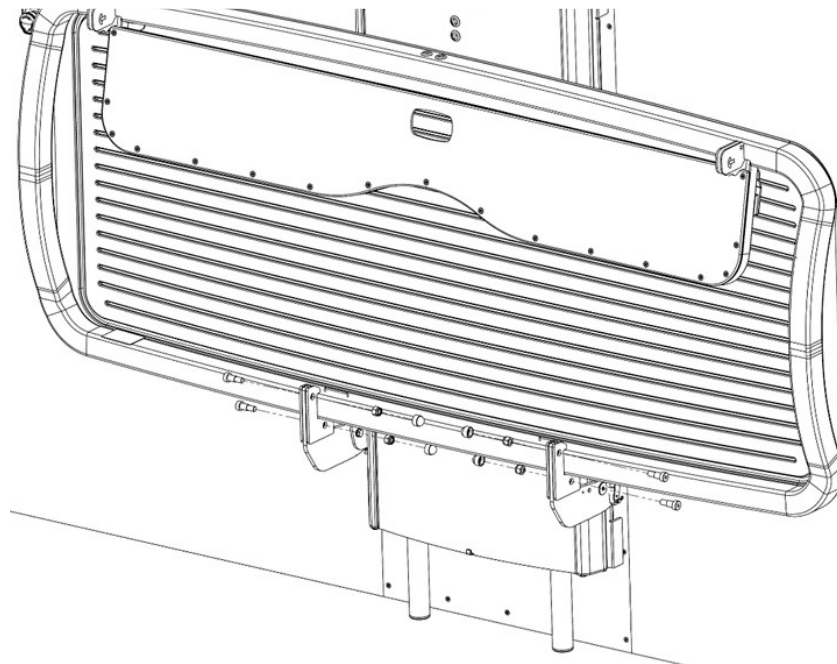

Fig 12.8c
- With two people, lift the stretcher and slot the SBU arms into the middle of each pair of stretcher brackets, see Fig 12.8c.